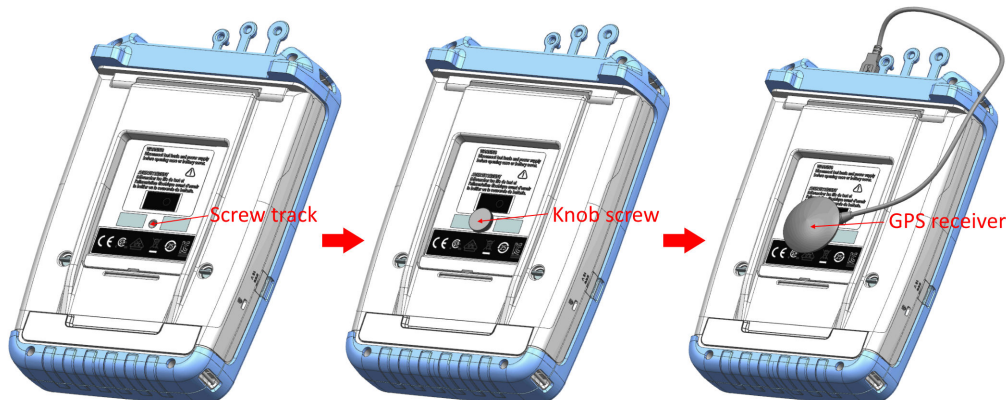

Figure 3-6: Location of GPS receiver
- The GPS receiver can be conveniently attached to the knob screw as shown in Figure 3-6.